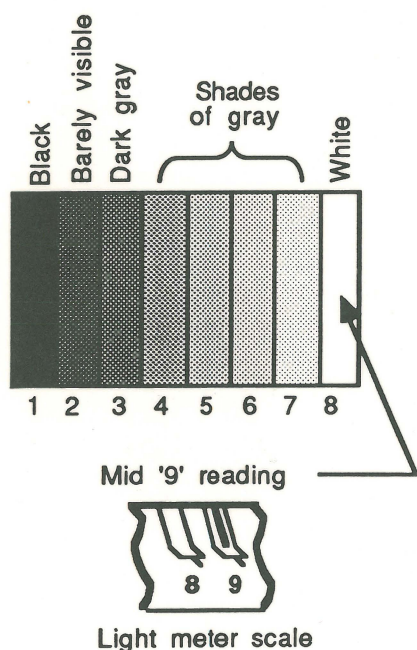

FIGURE 2
- Bar 2 and Bar 3 are barely visible and dark gray, respectively, as shown in Figure 2.
6. Adjust the G.DRIVE control on the B board until the center of bar 8 (the brightest bar) measures at the mid '9' scale on the light meter (see Figure 2).
NOTE: If there is no predominant color, bar 8 measures at mid '9' on the light meter, and bars 1-3 are adjusted as shown in Figure 2, the white balance is correct. If minor adjustments are still required, do steps 8 and 9.